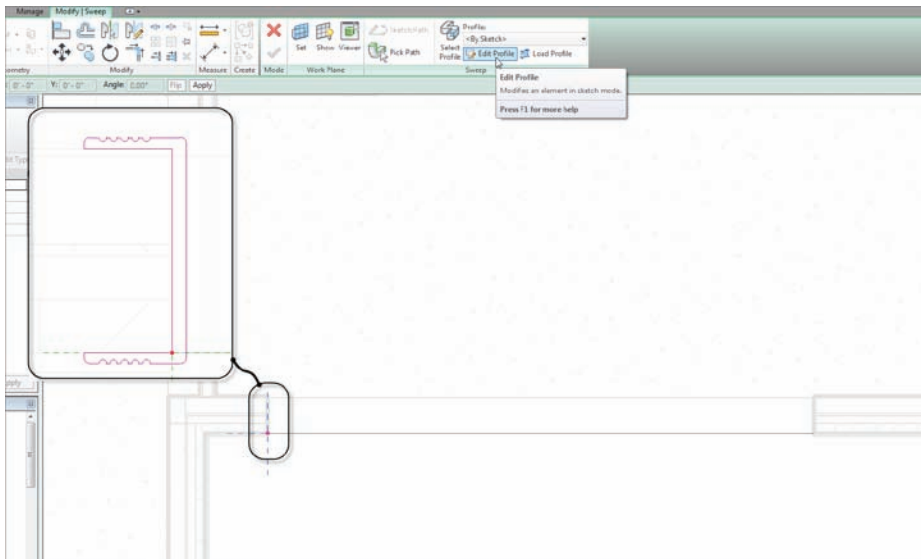

FIGURE 17.32 Sketching the profile
18. On the Sweep panel, click the Edit Profile button (see Figure 17.32).
19. Sketch a profile similar to that shown in Figure 17.32. Make it any size, shape, and complexity you wish.